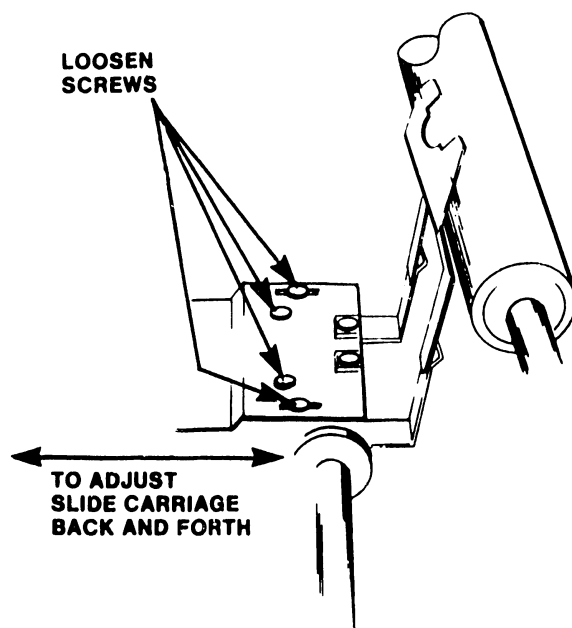

FIGURE 5-6 PRINT WHEEL TO PLATEN ADJUSTMENT
7. Loosen four Phillips head screws on the carriage assembly (Fig. 5-6) and then tighten them so they are only slightly snug.
10. Adjust the carriage assembly so that the alignment tool fits loosely between the alignment disk and the platen and the carriage assembly is parallel with both the platen and the carriage base plate (the assembly on which it is mounted). See Fig. 5-6.